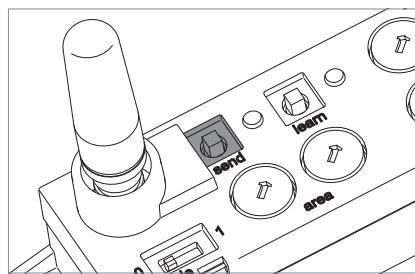

Fig. 22: "send" key.
- ▶ Press the "send" key and keep it depressed for at least five seconds, see Fig. 22.